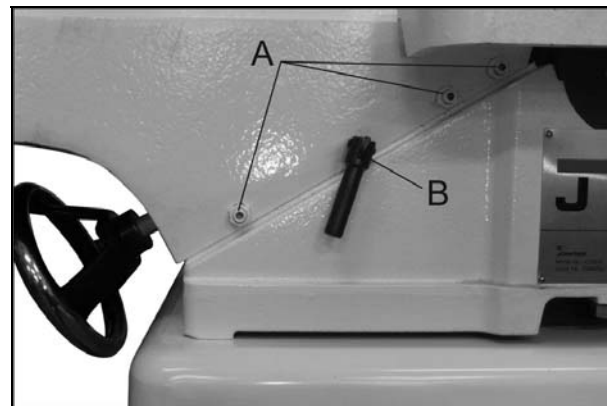

Figure 27
1. Loosen three lock nuts (A, Fig. 27) and gib lock screw (B, Fig. 27)
3. Tighten lock screw (B, Fig. 27) and lock nuts (A, Fig. 27).